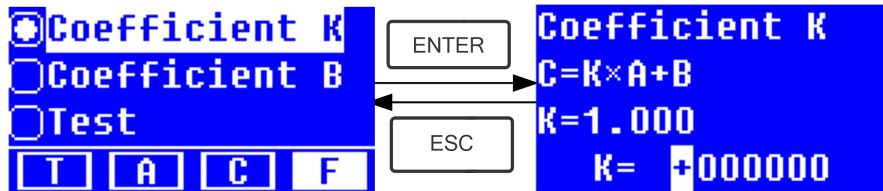

Fig. 4-18
- ★ Use Arrow Key to move the cursor on "Coefficient K" and press to go into K setting interface. (Fig. 4-18); Input every bit of K by Arrow Key and press to confirm. When the last bit finished, system will return the former Interface automatically.